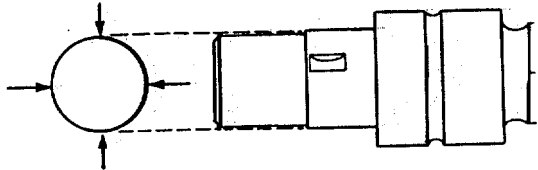

FIGURE 4-29. Measuring Camshaft Nose.
- (1) Visually inspect the camshaft nose in the gear fit area for burrs or other damage.
- (2) Check camshaft for cracks, nicks and chipping.
- (3) Measure camshaft bushing journals. They should be between 2.495 inches (63.37 mm) and 2.497 inches (63.42 mm).
- (4) Discard the camshaft if the journals measure less than 2.495 inches (63.37 mm).
- (5) Measure the camshaft nose in the gear press fit area (FIGURE 4-29).